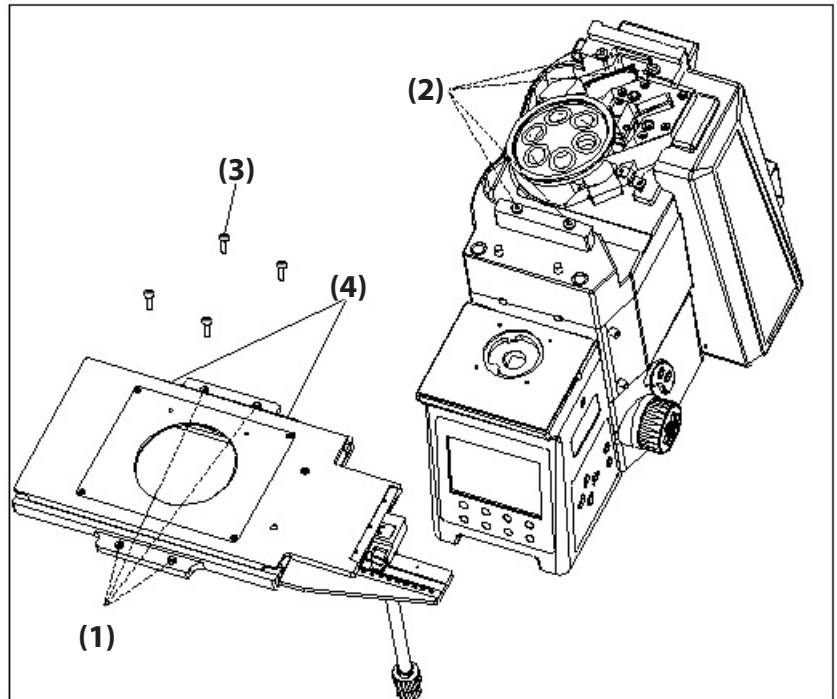

Figure 6
Refer to Figure 6 for reference. **Note: the mechanical stage requires 2 people to assemble due to its large size.** Align the 4 screw holes (1) on the stage (2) with the 4 holes on the microscope base. Using the included M5 Allen wrench, screw in the 4 screws (3) to secure the stage to the base. Using the M4 Allen wrench, loosen and remove the screws (4) on the side of the platform.